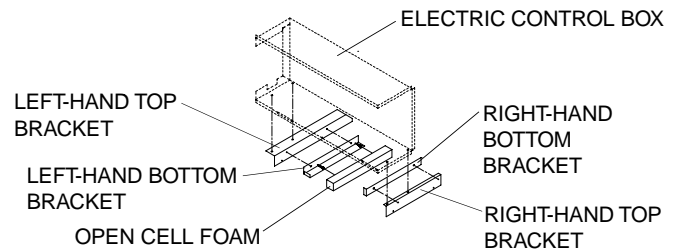

FIGURE 2 - RIGHT AND LEFT-HAND BRACKET ASSEMBLY
4. Assemble the left-hand top bracket to the left-hand bottom bracket to accommodate 1" filters with two (2) #10 screws. See Figure 2.
6. Assemble the right-hand top bracket to the right-hand bottom bracket to accommodate 1" filters with two (2) #10 screws. See Figure 2.
8. Place the 1" x 1" x 15" piece of open cell foam into the left-hand bottom bracket. See Figure 2.